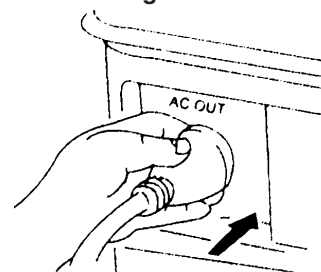

Figure 5
2. Plug electrical appliance into the 120V AC socket. See fig.5.